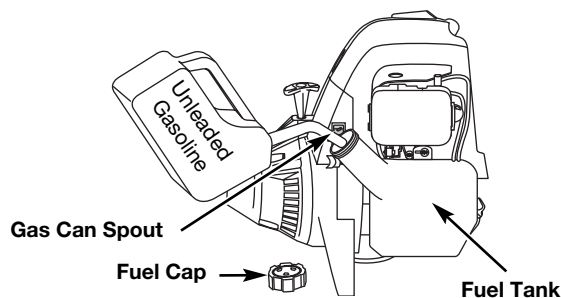

Fig. 4
1. Remove the fuel cap (Fig. 4).
2. Place the gas container's spout into the fill hole on the fuel tank (Fig. 4) and fill the tank.